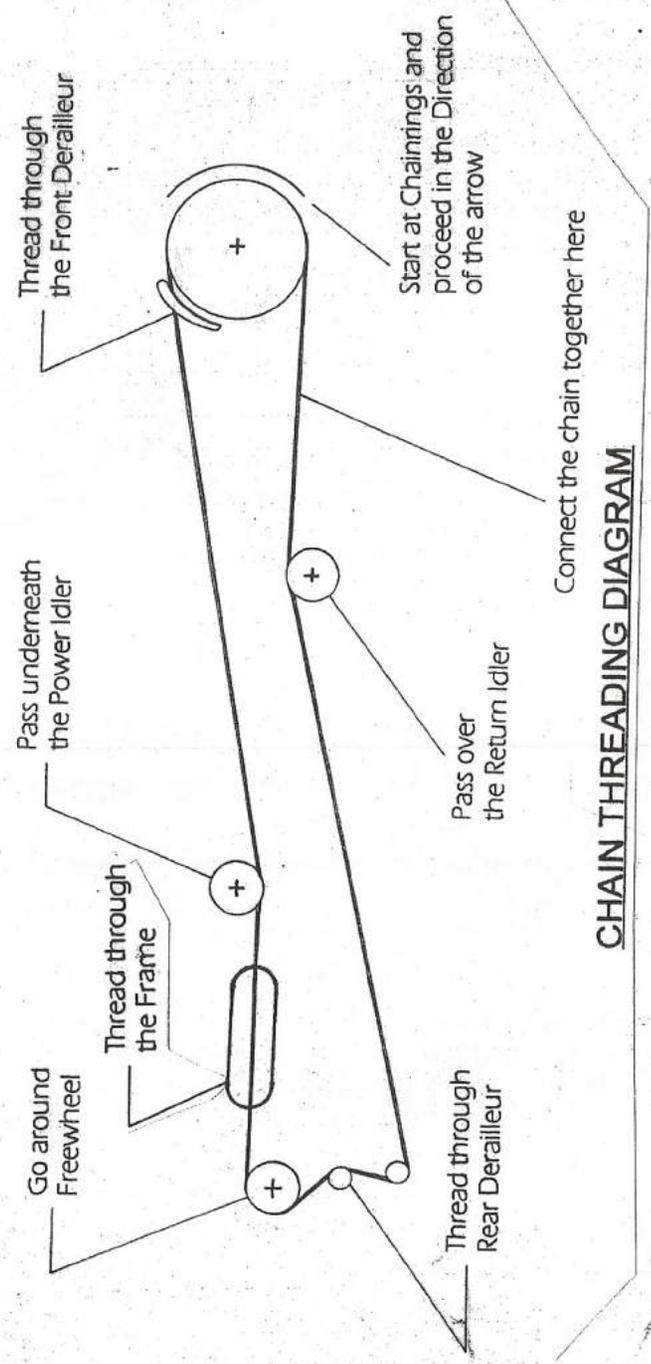

Fig. 1-4
- H) Install the chain according to figure 1-4.